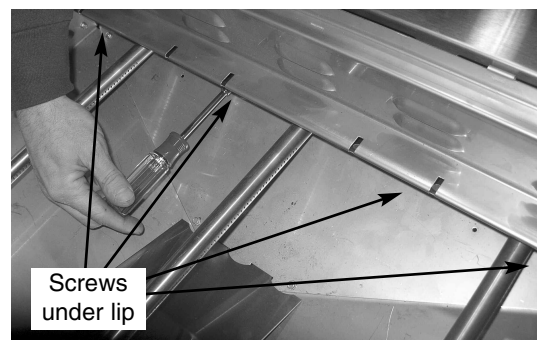

Fig 5
5. Loosen the four (4) screws from the bottom of the heat shield, holding the front heat shield in place. The screws are located under the bottom lip of the shield. (See Fig. 5)
23. Proceed with reattaching the front heat shield. (See Fig. 5 and 6 on page 2, and Fig 7 on previous page)